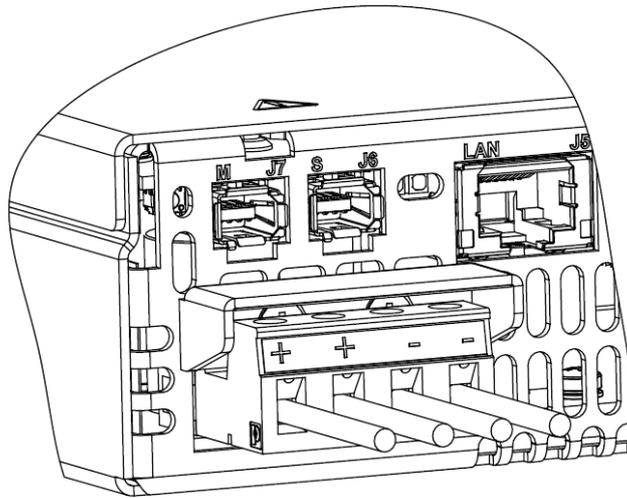

Figure 4-59: Output Plug Connection to P.S output
4. Fix the output connector to the output header as shown in Figure 4-59.